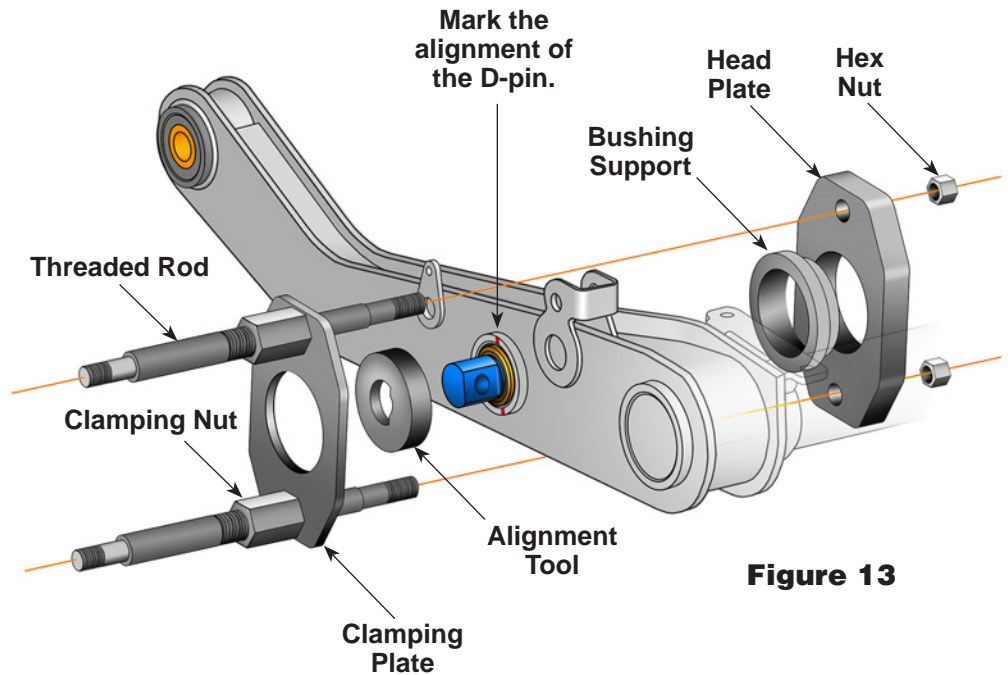

Figure 13
1. Mark the beam to show the alignment of the existing D-pin. Install the alignment tool over the D-pin, and place the clamping plate over the alignment tool. See Figure 13.